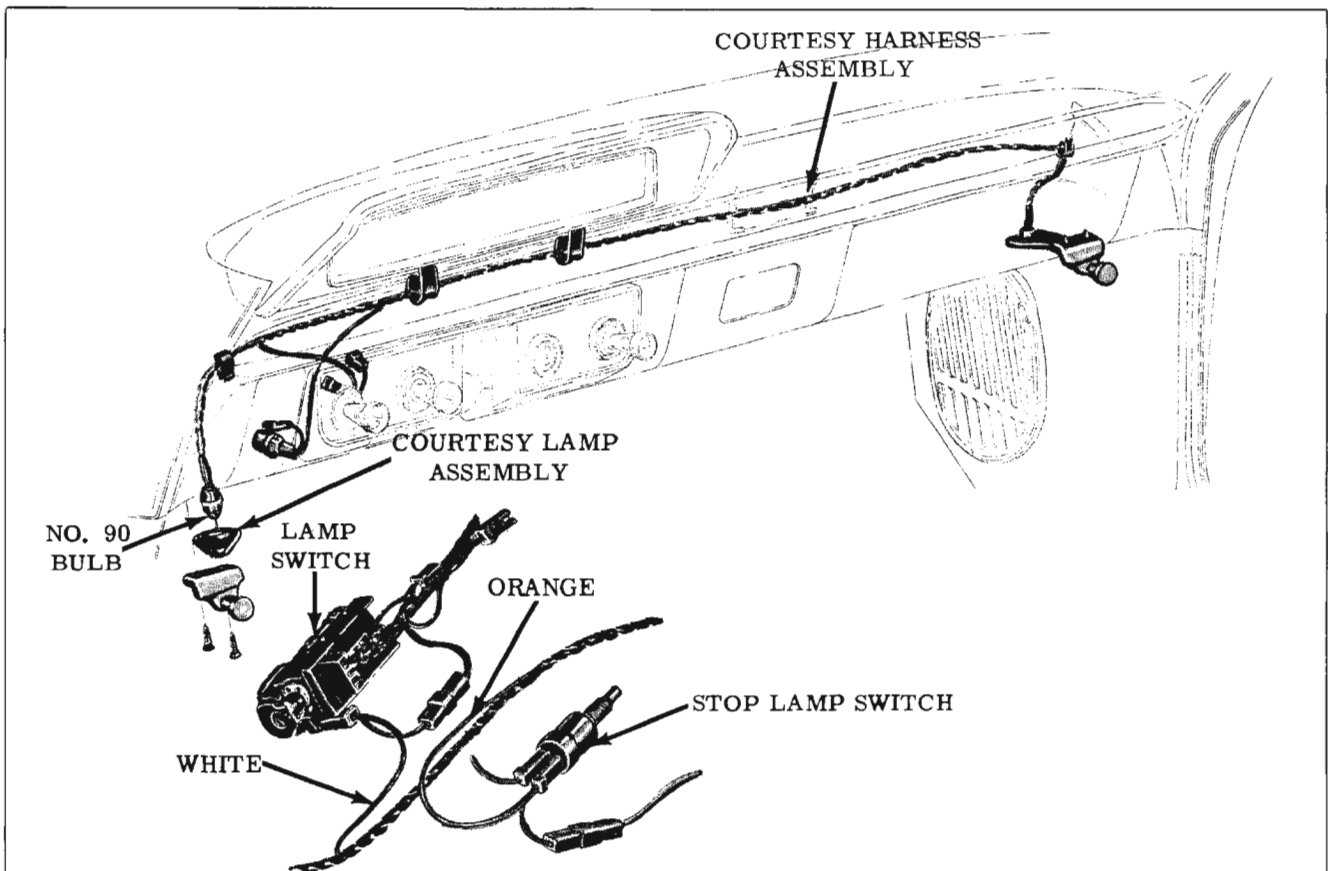

Fig. 14-138 Headlamp Switch and Courtesy Lamp Wiring
1. Disconnect wiring from lamp switch. (Fig. 14-138)